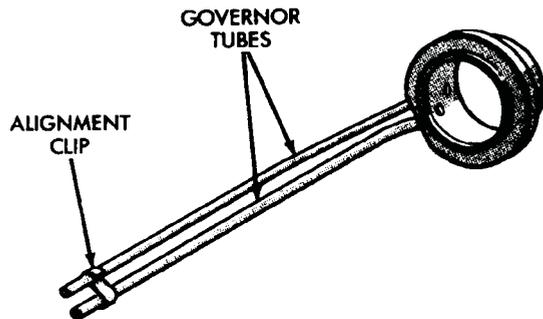

**Fig. 69 Reaction Plug Locating Pin And Snap Ring**
(13) Install park lock reaction plug. Note that plug has locating pin at rear (Fig. 69). Be sure pin is seated in hole in case before installing snap ring.